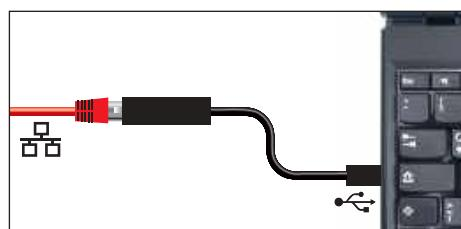

Fig. 7      USB to Ethernet converter
- USB to Ethernet converter (Fig. 7). Makes it possible to connect the Ethernet connection interface (see page 12) to the USB port of a computer / laptop.